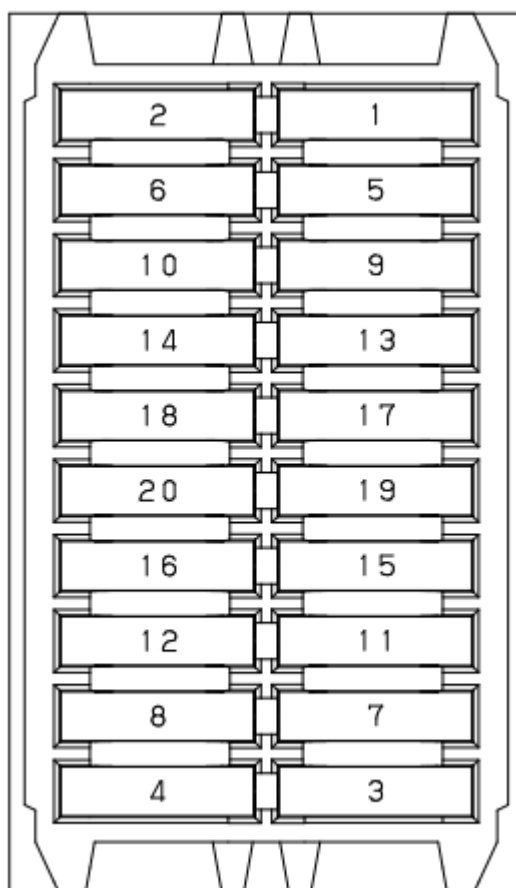

Figure 6.4 Fraction packaging
- (1) The cushion (lower) shall be put into the box then put two piece of the support-pad each at both the long-side of cushion (lower).
- (2) The unitary packed HDD (bag packing) shall be put into the cushion (lower).
- For less than 20 HDDs, insert the HDDs starting from the slot with the smallest number in Figure 6.4.